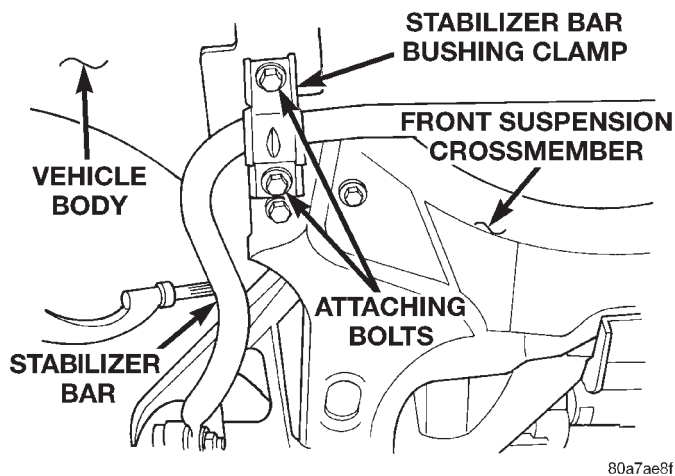

Fig. 12 Stabilizer Bar Bushing Clamp Attaching Bolts
(10) Remove the stabilizer bar bushing clamp to body attaching bolts only (Fig. 12). The sway bar
bushing clamp to front suspension crossmember bolts (Fig. 12) do not need to be removed
(13) Install the 2 stabilizer bar bushing clamp to body attaching bolts (Fig. 12) and securely tighten.